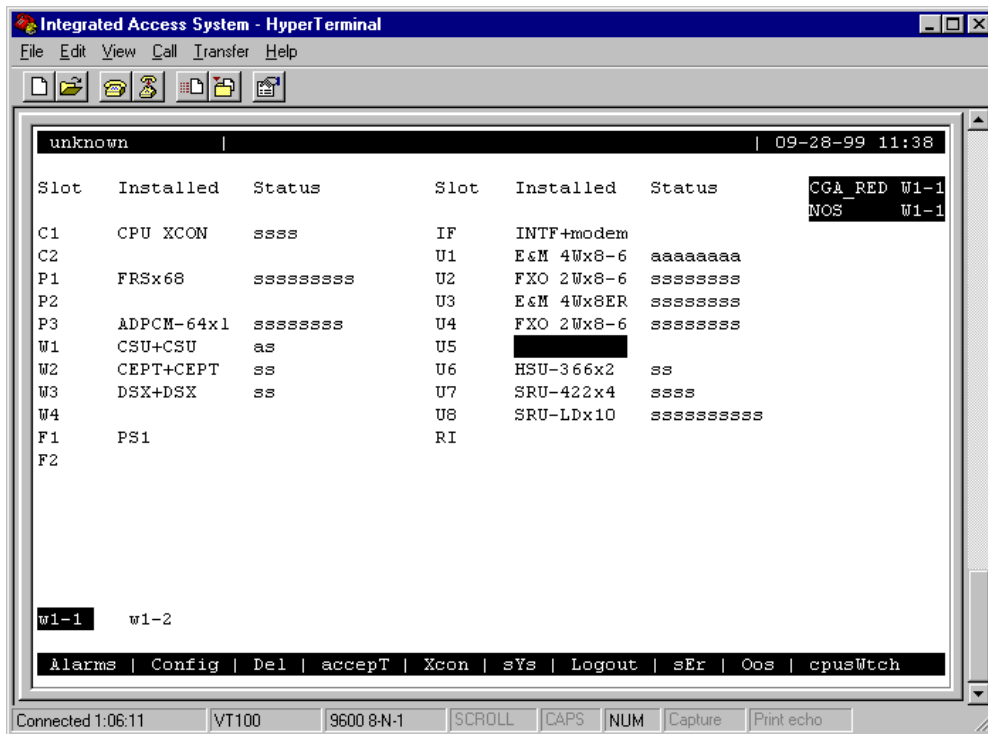

Figure 4-22. Typical WAN Card Selection
5. Select the WAN port to which you want to assign the voice cards (W1-1 or W1-2), as shown in Figure 4-22.